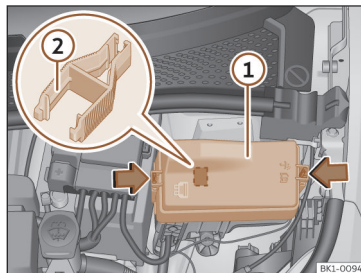

Fig. 181 In the front compartment: fuse box cover.
- Press the locking tabs to unlock the fuse box cover >>> **Fig. 181 ①**.
In the fuse box there may be plastic tweezers for removing fuses >>> **Fig. 181 ②**.